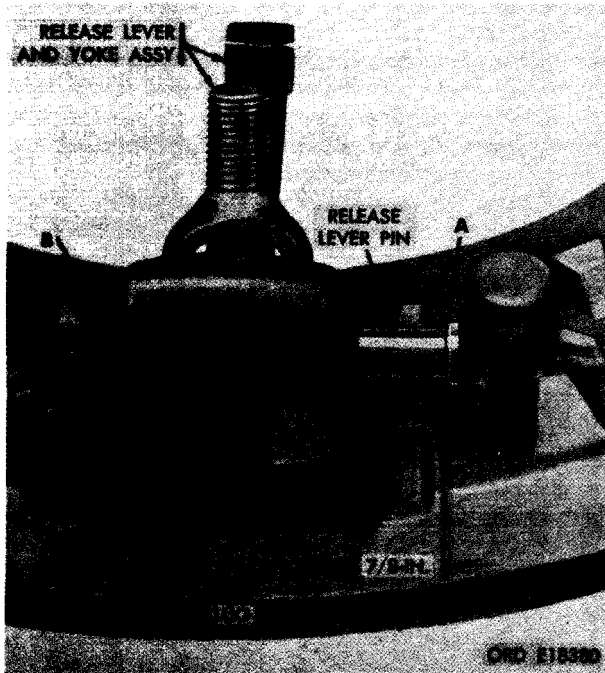

FIGURE 453. REMOVING OR INSTALLING RELEASE LEVER PIN.
f. Remove Release Lever Pin. Figure 453. (A) File off mushroomed end of one release lever pin. Drive pin out of pressure plate lug and release lever far enough so that distance from head of release lever pin to machined surface of pressure plate lug is approximately 7/8-inch. (B) Install clutch lever bearing retaining pin through hole in pressure bearing retaining pin and into needle rollers in release lever. Continue to drive out release lever pin until release lever and yoke assembly can be removed.
g. Remove Release Levers and Needle Rollers. Figure 454. (A) Remove bearing retaining pin and 19 needle rollers from release lever. (B) Remove the remaining three release levers and needle bearings from pressure plate (fig. 453).
b. Install Release Levers. Coat 19 release lever needle rollers with grease (GAA) (MIL-G 10924). Insert the 19 release lever' needle rollers in release lever pin bore using one bearing retaining pin to hold rollers in position as they are installed, as shown in figure 454. Refer to figure 453 and reverse the sequence of instructions to install the four release lever and yoke assemblies on the pressure plate.